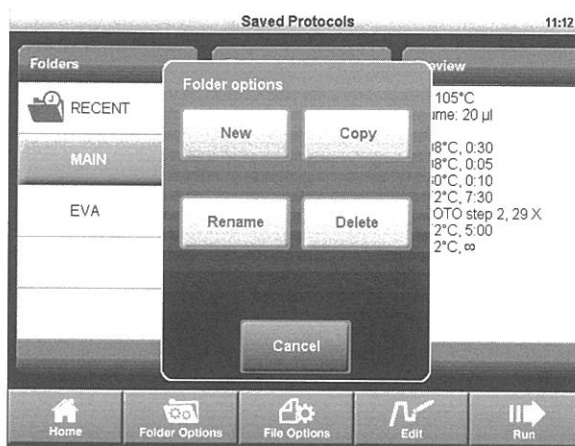

Figure 22. Touch **New** to create a new folder on the cyclcr.
1. From the **Saved Protocols** screen, touch **Folder Options > New** (Figure 22).
2. Touch **Folder Options > Copy** to copy a folder or **File Options > Copy** to copy a protocol file (Figure 22).
2. Touch **Folder Options > Delete** to delete an entire folder or **File Options > Delete** to delete a single protocol file (Figure 22).